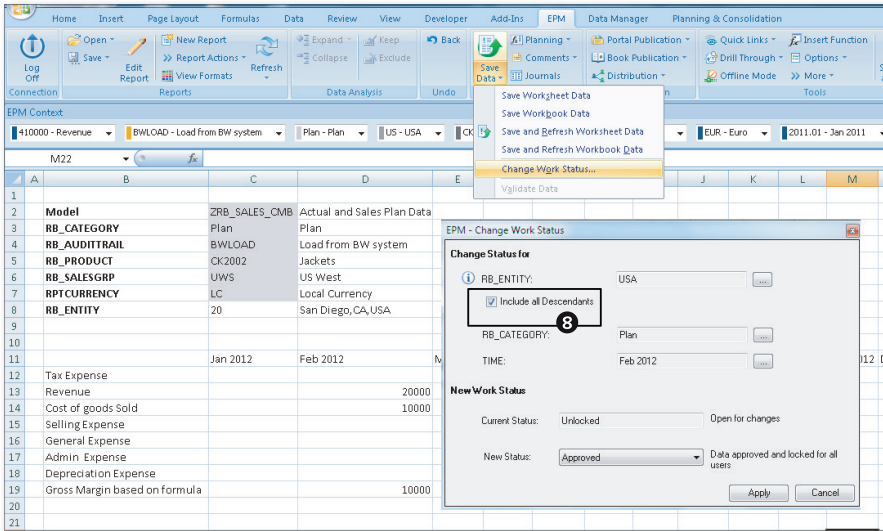

Figure 7.5 Configuring Work Status to Lock Data—Part E
9. Select the CHANGE WORK STATUS menu option under the SAVE DATA command in the EPM tab to choose the member values for specifying the work status, and make the selections shown in Figure 7.5 in the EPM – CHANGE WORK STATUS dialog box as follows:
10. Include all of the descendants for the entity member selected by selecting INCLUDE ALL DESCENDANTS (Figure 7.5, ⑧). This will apply the work status selection for all of the descendants of the entity member selected. Select APPROVED as the work status, and click on APPLY. You will see a confirmation that the work status has been set to APPROVED for the selections.